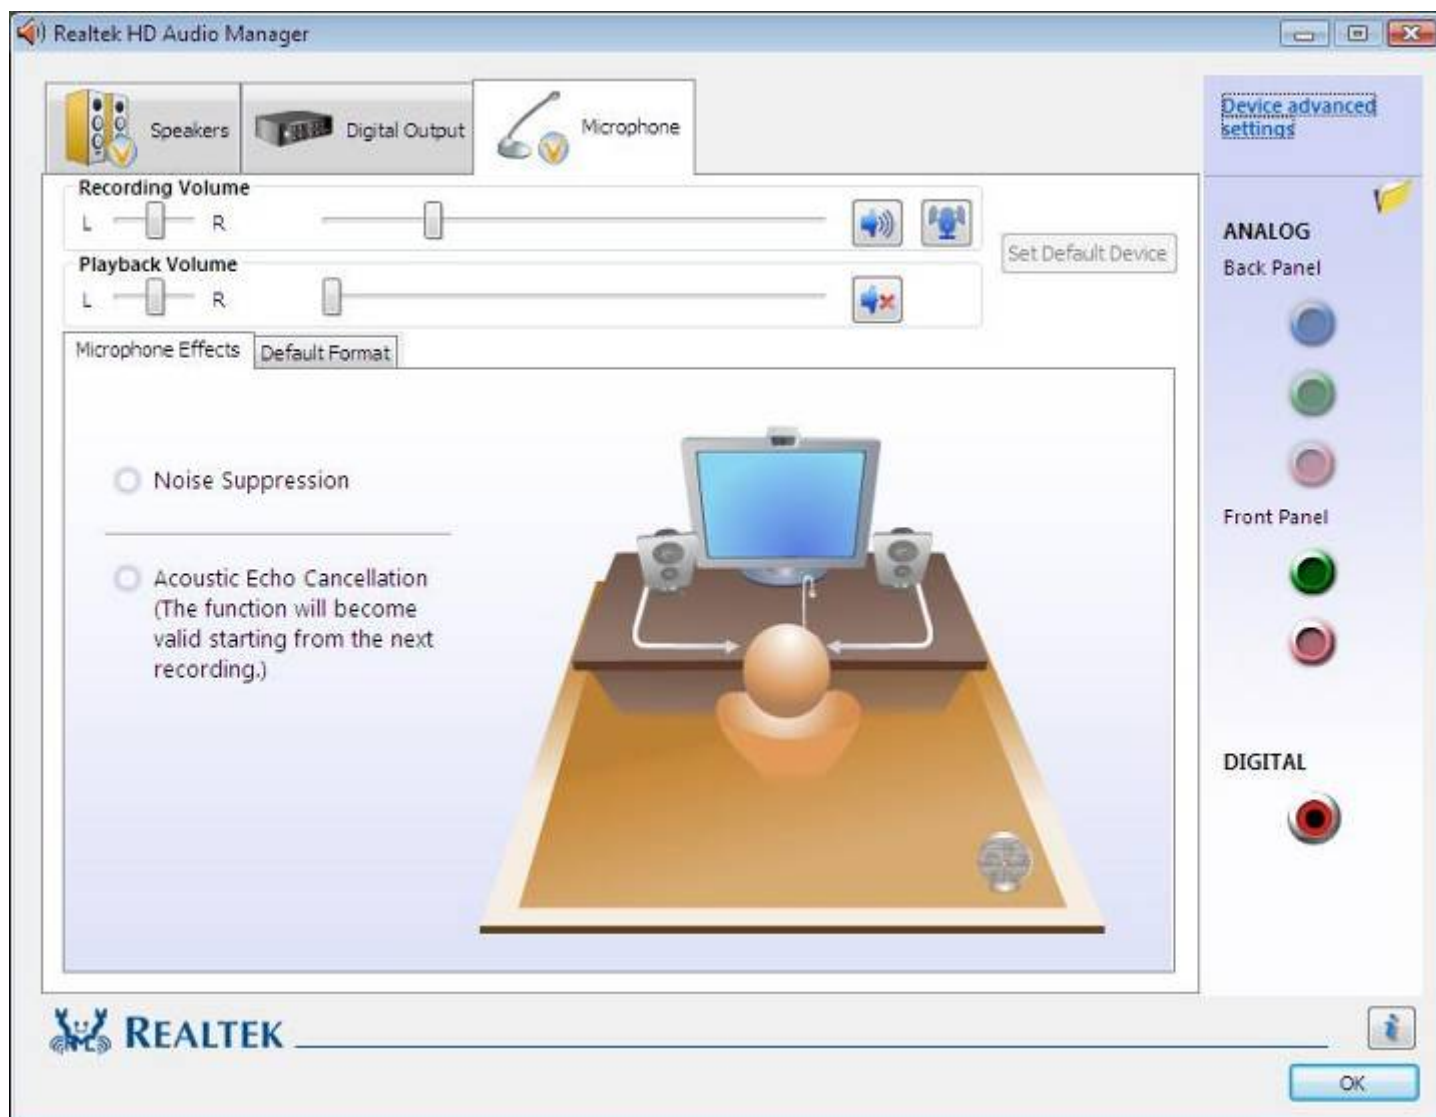

Fig. 13
3. Click OK, and the controlling interface will turn to one shown in Fig.13.